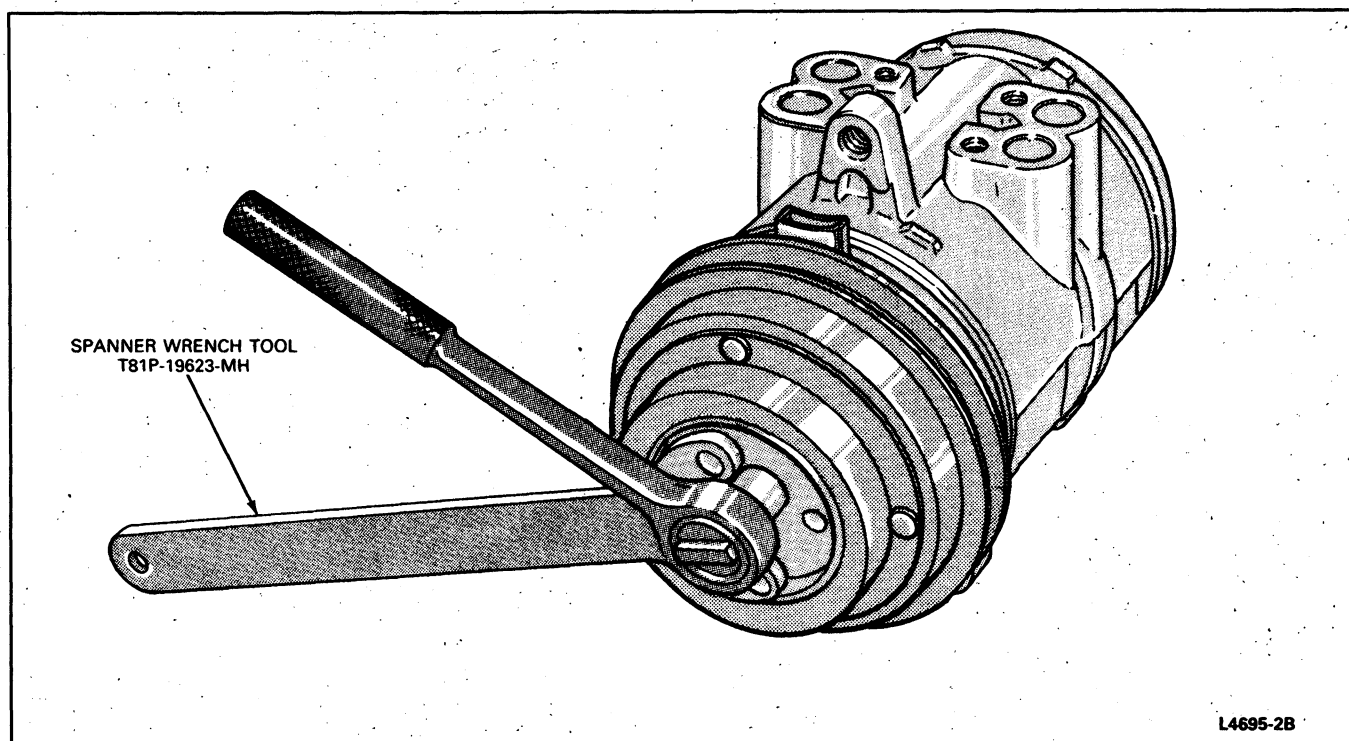

FIG. 4 Clutch Hub Retaining Nut—Removal
1. Remove the clutch retaining nut. Use Spanner Wrench T81P-19623-MH or equivalent, if necessary (Fig. 4).